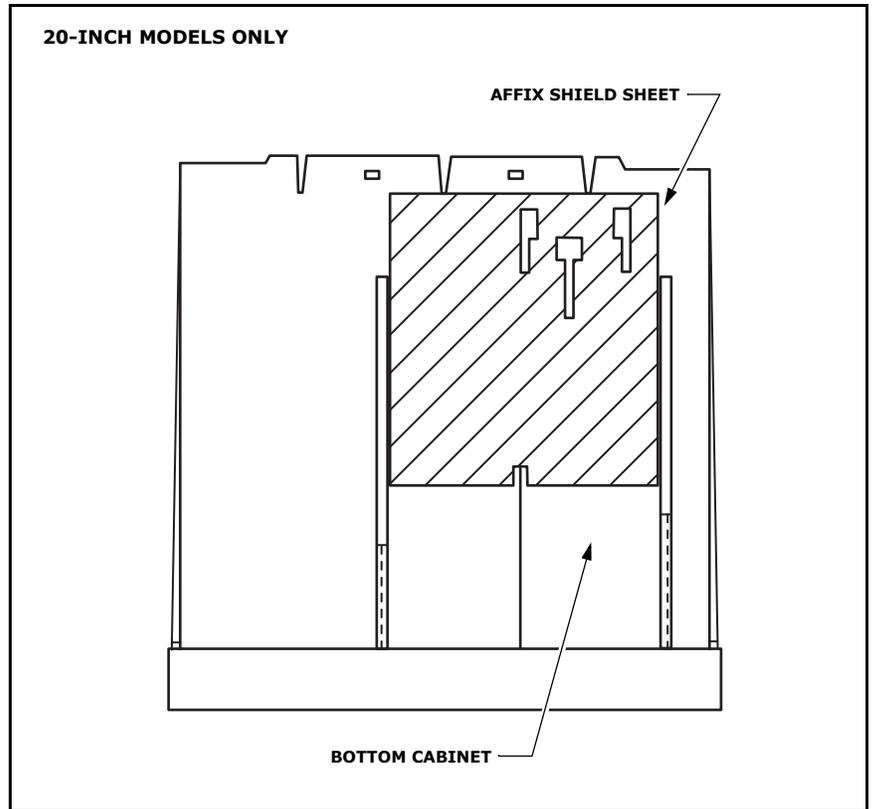

Figure 3
4. For 20-inch models only, affix a shield sheet to the bottom cabinet as shown in Figure 3.